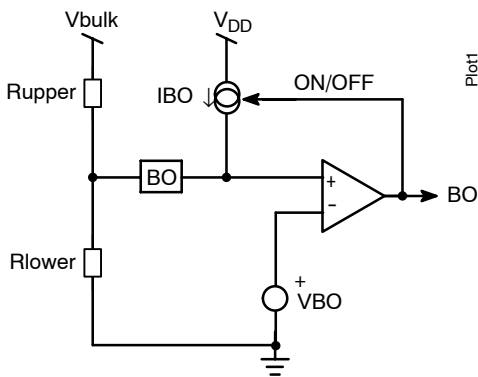

Figure 29a. The internal brown-out configuration with an offset current source.
Figure 29a, offers a way to observe the high-voltage (HV) rail. A resistive divider made of R_{upper} and R_{lower} , brings a portion of the HV rail on pin 3. Below the turn-on level, the $10\ \mu\text{A}$ current source IBO is off. Therefore, the turn-on level solely depends on the division ratio brought by the resistive divider.